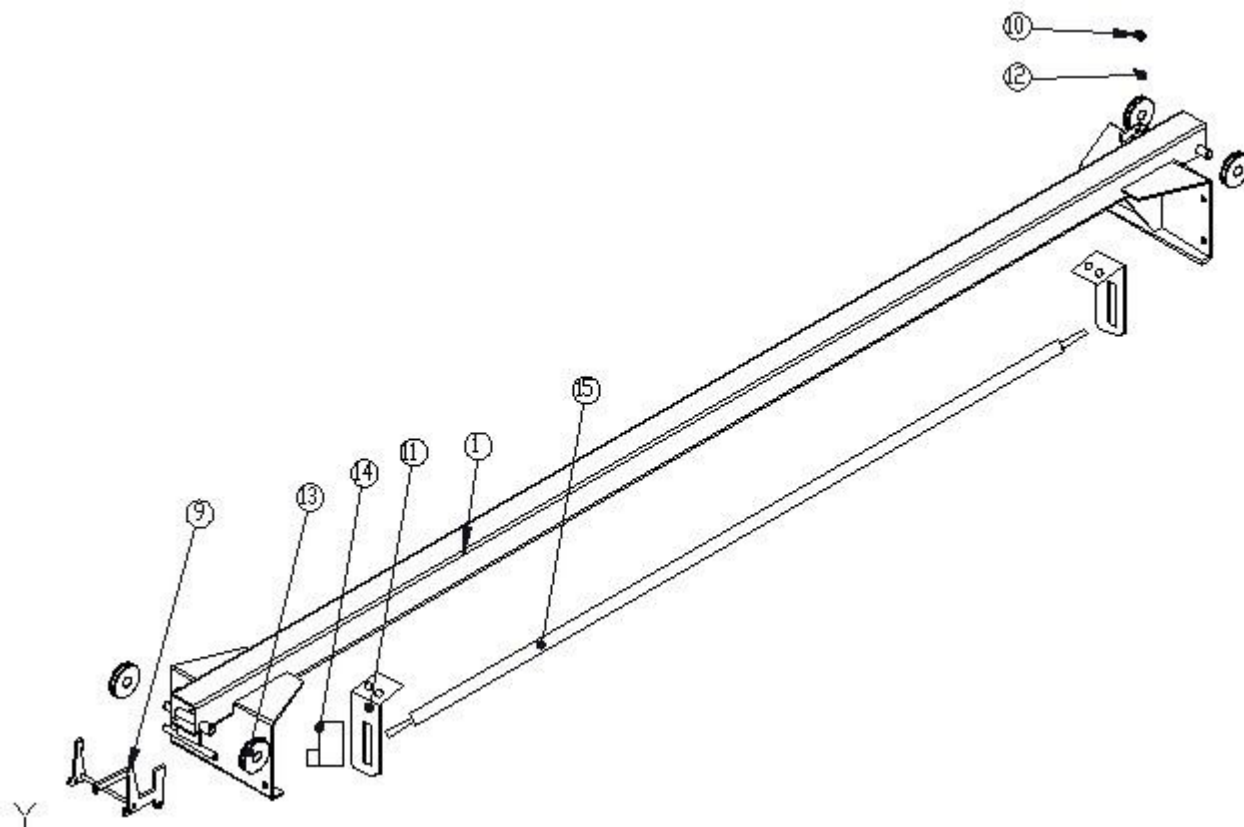

Fig. 6-1
*Connect power line according to the electric diagram (see Fig.6-1) (provided by user). The three black lines are phase wire and a blue line is N wire. A yellow and green line is ground wire which should be connected to the ground reliably.*